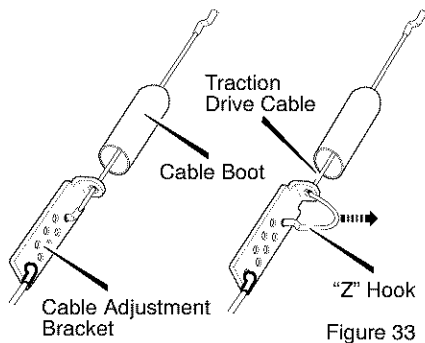

Figure 33
4. Slide the **cable boot** off the **cable adjustment bracket** (see Figure 33).